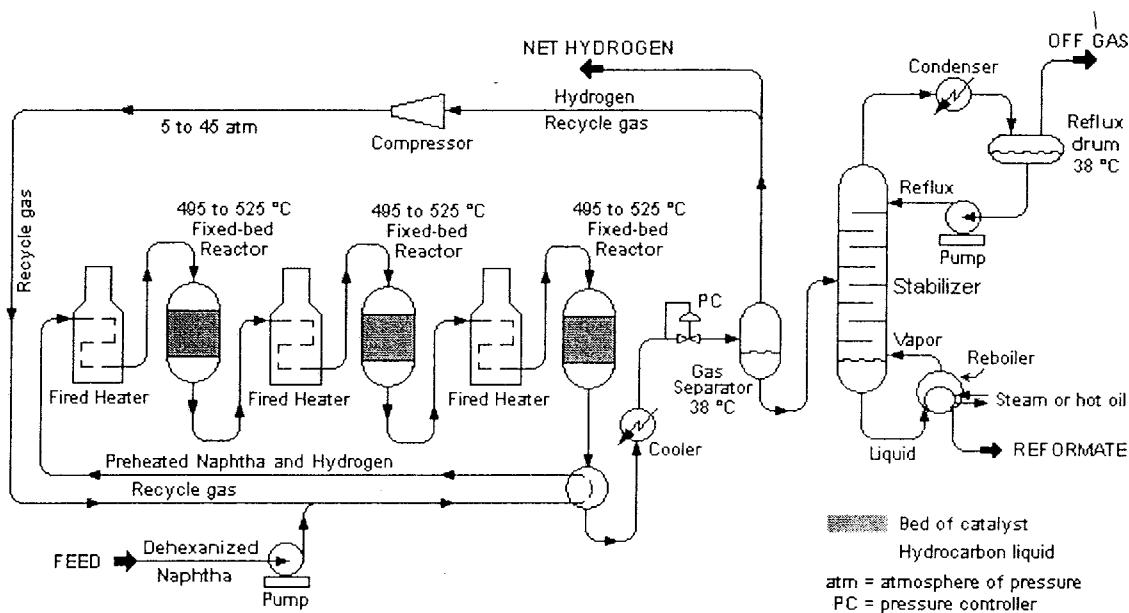

Figure Q.3.[d].
- [d] Explain the operations of a typical semi-regenerative catalytic reformer unit based on Figure Q.3.[d].